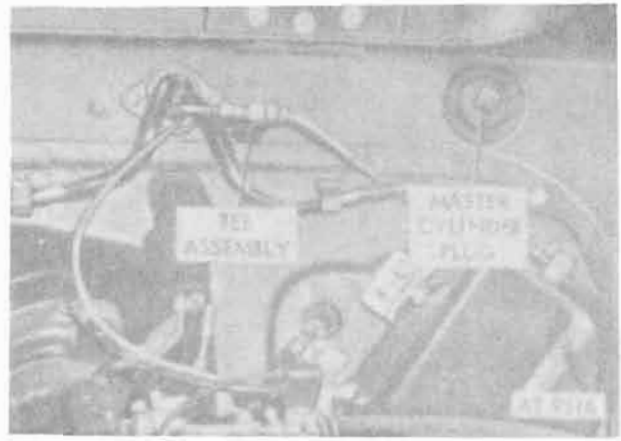

Figure 18-96. Master cylinder plug and ventilation tee.
- d. Remove and discard plug from master cylinder (fig. 18-96). Stow gasket.
- e. Disconnect lines at tee assembly. Remove and discard tee (fig. 18-96).